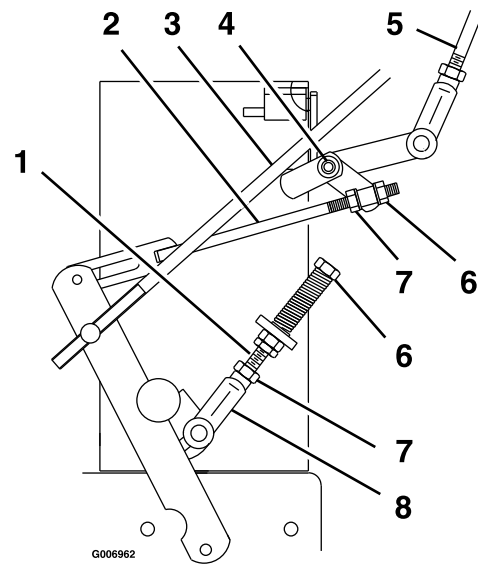

Figure 20
4. Loosen the nut against the neutral control linkage yoke as shown in Figure 20.
2. Loosen the front nut on left hydro control linkage as shown in Figure 20. Turn the rear control linkage adjusting nut counterclockwise until wheel rotates forward. Turn the rear nut of left control linkage clockwise 1/4 of a turn at a time, stopping to move the speed control forward and back to neutral, until left wheel stops rotating forward.